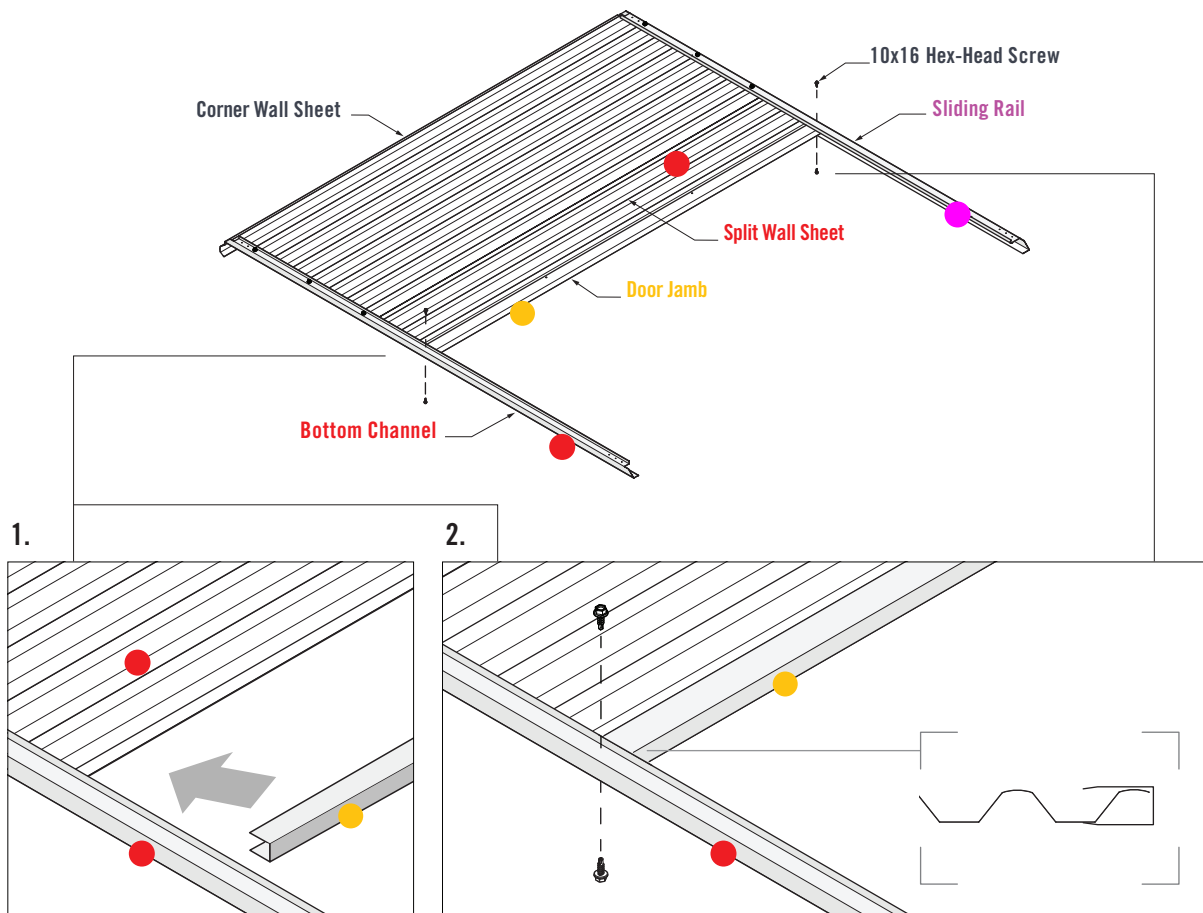

FIGURE 4.3
1. Fit the **Door Jamb** over the **Corner Wall Sheet**, ensuring it is inside the **Bottom Channel** and **Sliding Rail** (Figure 4.3).
2. Fasten two 10x16 Hex-Head Screws through the pilot holes of the **Sliding Rail** and into the **Door Jamb**. Fasten two 10x16 Hex-Head Screws through the **Bottom Channel** and into the **Door Jamb** (Figure 4.3).